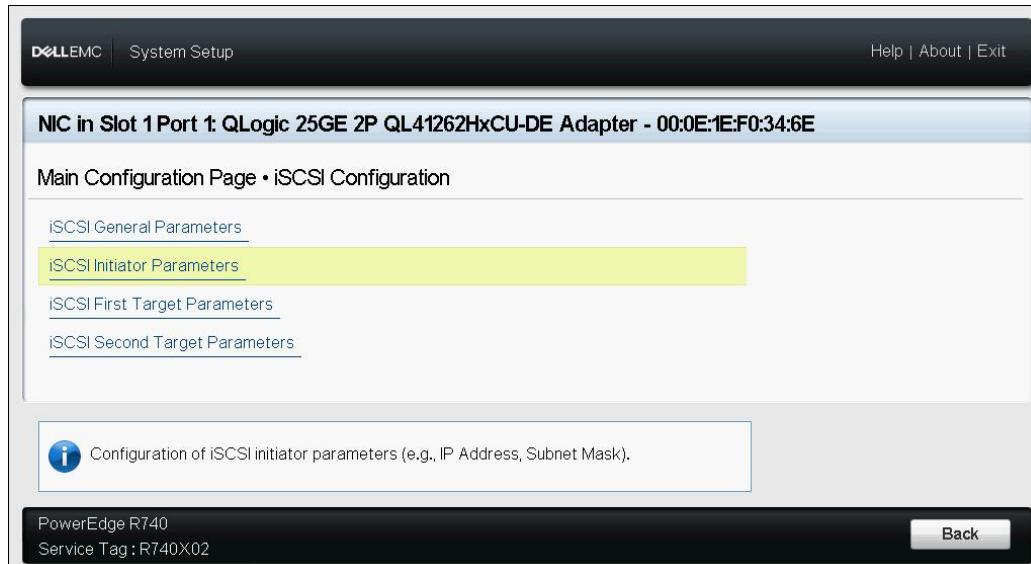

Figure 9-9. System Setup: Selecting iSCSI Initiator Parameters
5. Select **iSCSI Initiator Parameters** (Figure 9-9), and then press ENTER.